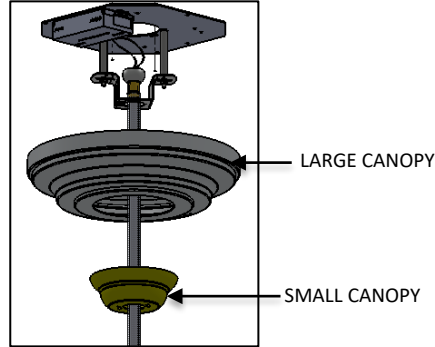

FIG. 13 – CANOPY INSTALLATION
6. Raise the CANOPIES to the ceiling and TWIST TO LOCK in place. Be careful not to scratch the finish of the FIXTURE SUBASSEMBLY as shown in FIG.13.